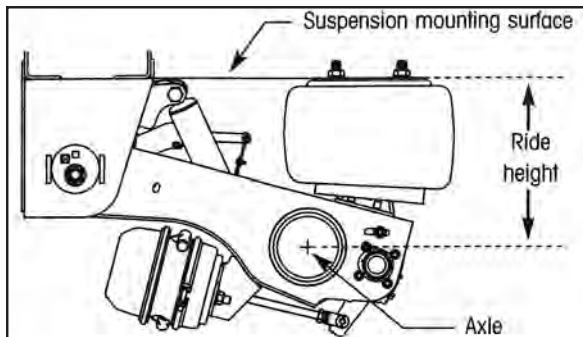

Figure 25. Ride height measurement
- a. Measure from the underside of the trailer frame to the top of the axle as shown below (Figure 25).